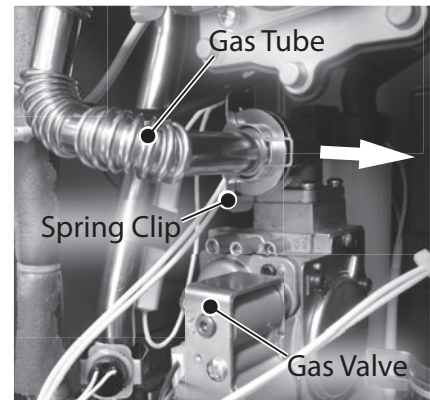

Figure 128 - Remove gas tube spring clip
- 18** Locate the gas tube connecting the venturi assembly to the gas valve as shown in Figure 128. Note the orientation of the spring clip securing the gas tube to the gas valve. Remove spring clip and place it aside in a safe place for reinstallation. Leave the gas tube connected to gas valve. This will provide support when removing the fan assembly screws.